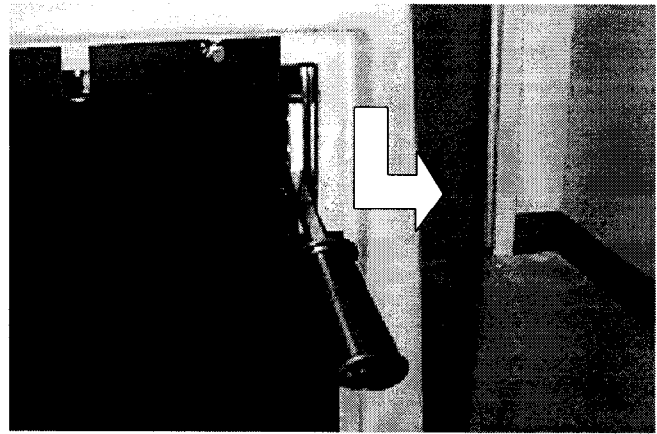

FIG. 11.
2. Lower brush lift lever and engage lock block. (Figure 11)